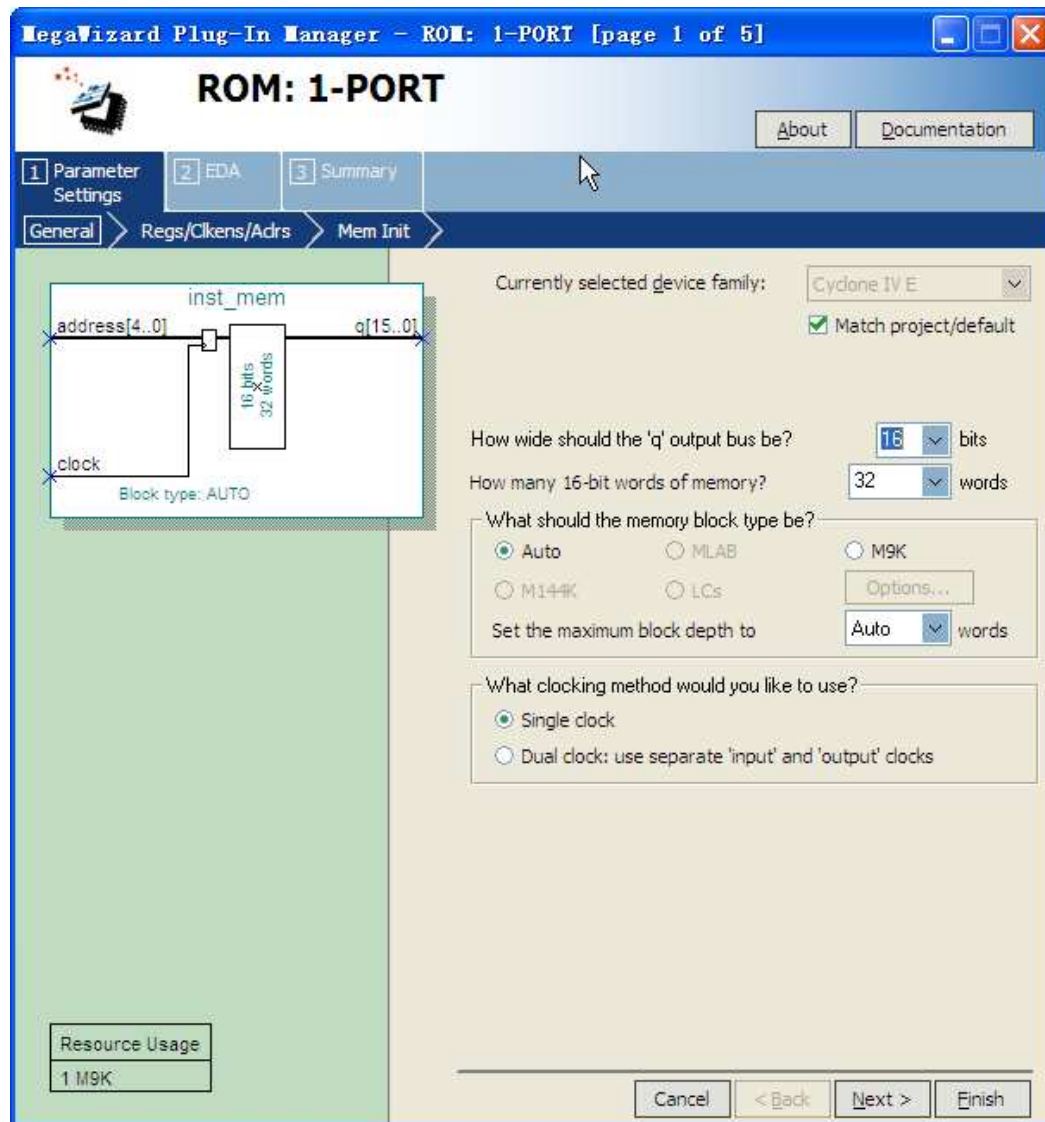

Figure 4. ALTSYNCRAM configuration.
2. Generate a top-level Verilog file that instantiates the processor, memory, and counter. Use the Quartus II MegaWizard Plug-In Manager tool to create the memory module from the Altera library of parameterized modules (LPMs). The correct LPM is found under the storage category and is called ALTSYNCRAM. Follow the instructions provided by the wizard to create a memory that has one 16-bit wide read data port and is 32 words deep. The first screen of the wizard is shown in Figure 4. Since this memory has only a read port, and no write port, it is called a synchronous read-only memory (synchronous ROM). Note that the memory includes a register for synchronously loading addresses. This register is required due to the design of the memory resources on the Cyclone II FPGA; account for the clocking of this address register in your design. To place processor instructions into the memory, you need to specify initial values that should be stored in the memory once your circuit has been programmed into the FPGA chip. This can be done by telling the wizard to initialize the memory using the contents of a memory initialization file (MIF). The